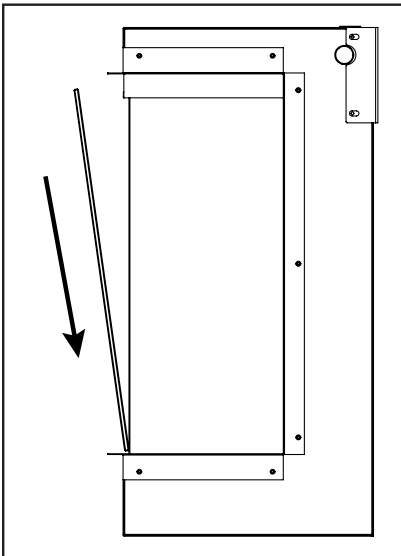

Figure 20: Front Glass - Step 1
1. Insert the front glass at an angle into the bottom channel (see figure 20).